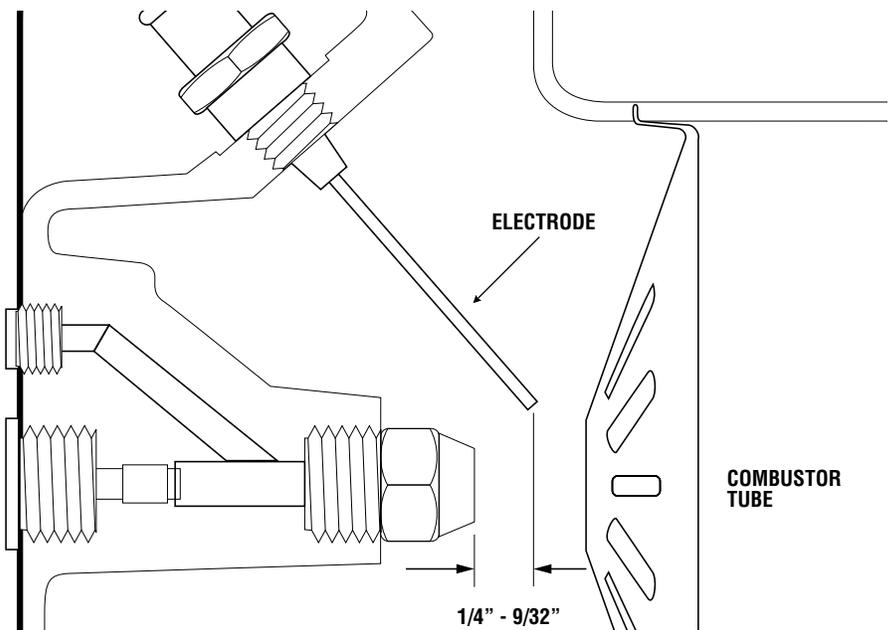

Figure 4-24. Electrode Gap Detail
2. Remove three (3) bolts from the fan end and open up heater.
4. Check electrode gap as per figure 4-24.
5. Reinstall fan end and torque three (3) bolts to  $75\pm 5$  in/lbs ( $8.5\pm 0.5$  Nm).